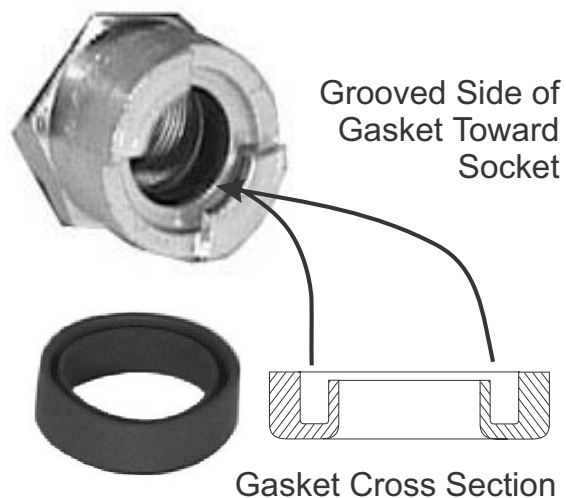

Figure 9-40. Install a new Quick Disconnect Gasket
8. Install a new gasket in the Quick Disconnect (Q.D.) Fitting (11):
- If a new Q.D. Fitting (11) is to be installed, it already contains a new gasket. Proceed to step 10.
- If the old Q.D. Fitting (11) is to be installed, proceed to step 9, and install a new gasket.
9. With the grooved face of the new Gasket toward the Quick Disconnect Fitting (11), insert the new gasket into the fitting. Check that the gasket seats properly. Refer to Figure 9-40.